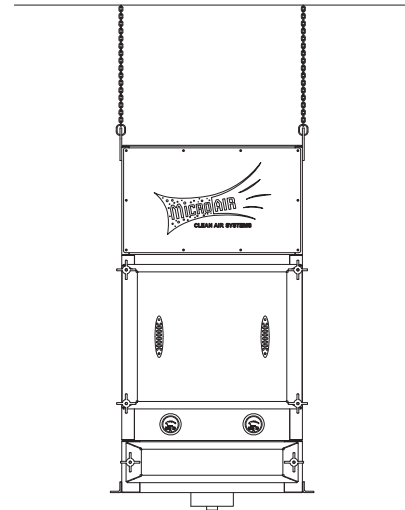

Fig. 1
2. Use chain or all-thread to attach the air cleaner at the provided hanging brackets to structural supports (FIG 1).